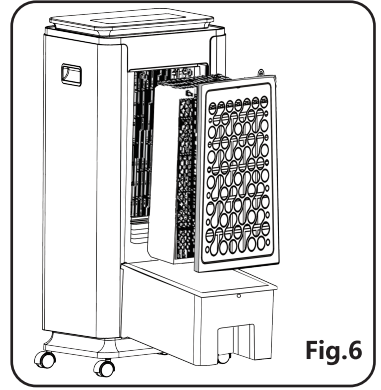

Fig.6
7. Regularly clean the dust-proof brackets and water pad by unscrewing the dust-proof brackets and removing them and the water pad. These should be cleaned in a mild, soapy solution and then left to dry before they are replaced.(Fig. 6)